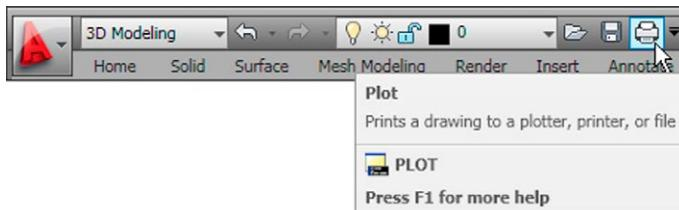

Fig. 19.9 The **Plot** tool icon in the **Quick Access** toolbar
9. Click the **Plot** tool icon in the **Quick Access** bar (Fig. 19.9). A **Plot** dialog appears.